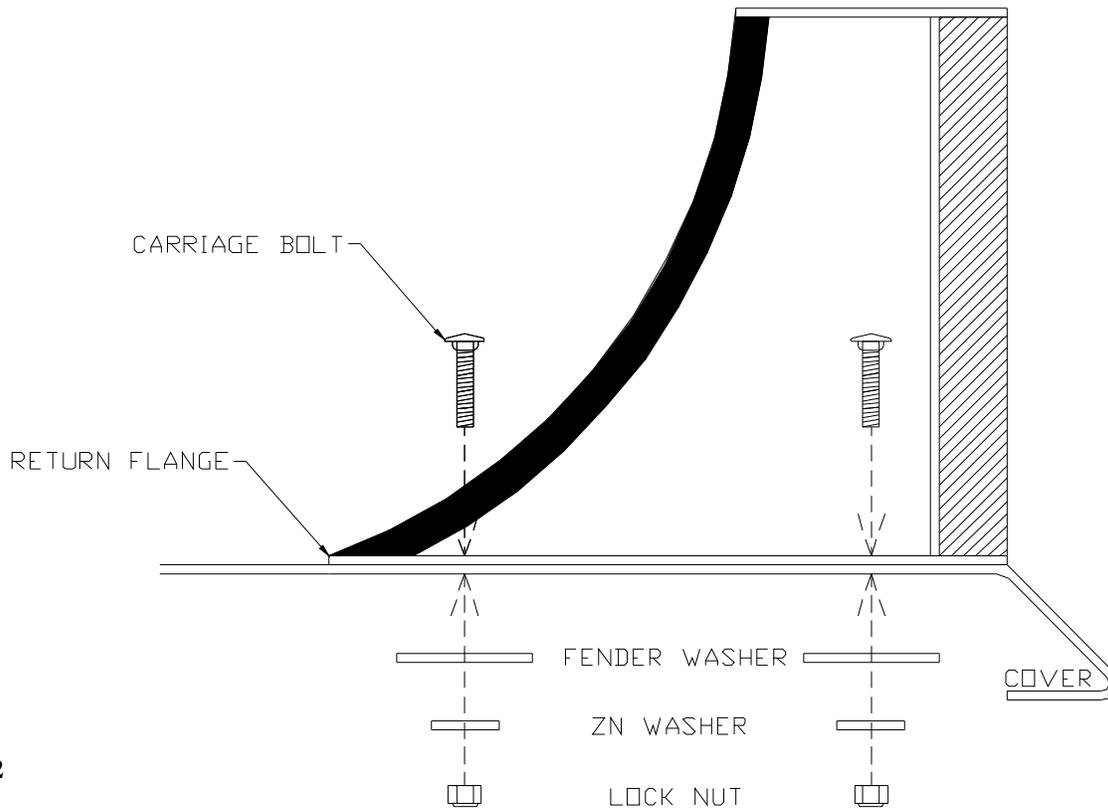

Figure 12
2. Center the cab guard on the edge of the cab panel nearest the window of the cab, Figure 12.
6. Place the cab guard back onto the cab panel and place a 5/16"x1" carriage bolt into each of the holes. (Figure 12)